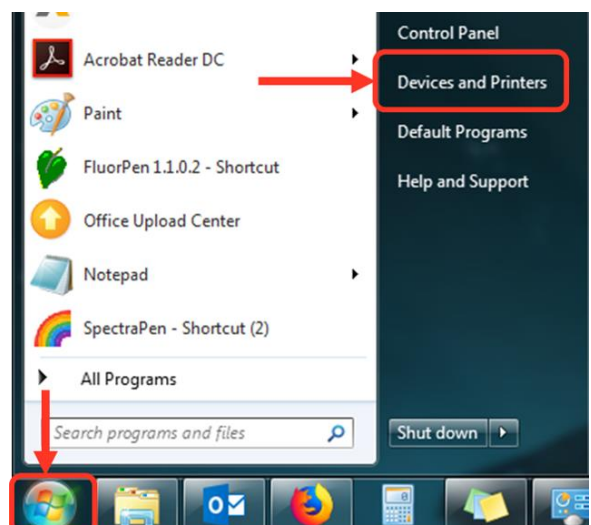

Fig. 7 Start bluetooth application.
- Select: Start > Devices and Printers (Fig. 7).